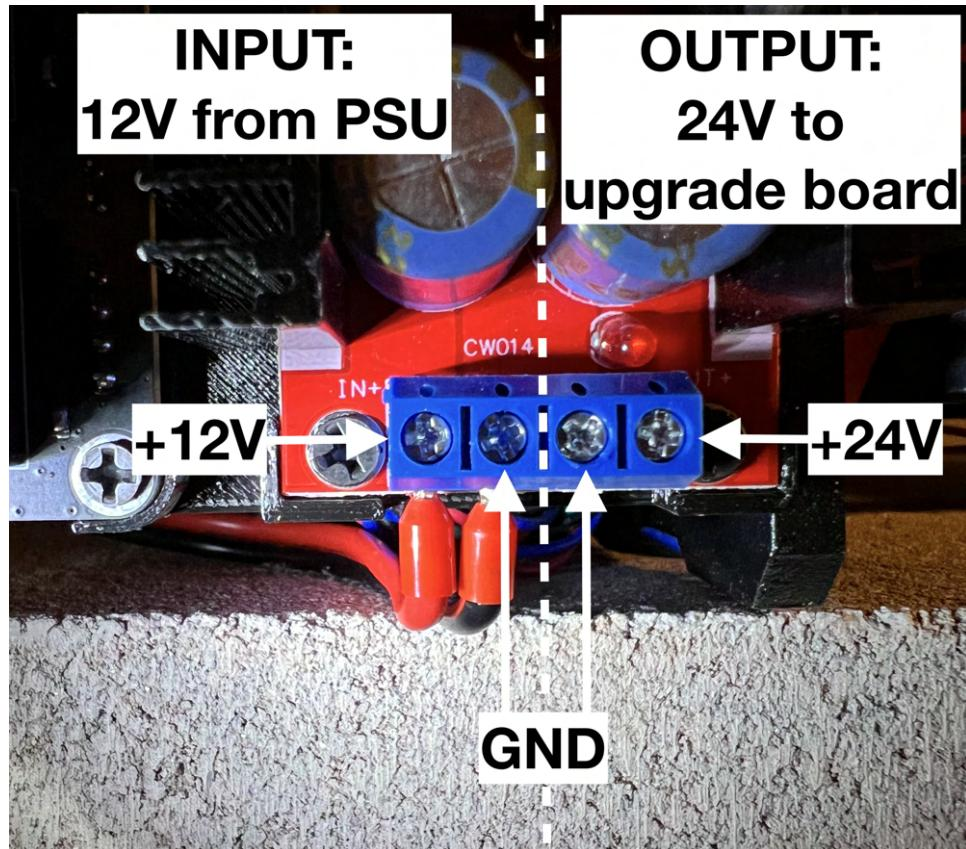

Figure 25: 12V power cables from PSU mounted to the input terminals on the boost converter. Boost converters terminals input and output connections marked.
2. Retrieve the power cables from the PSU and connect them to the positive and negative inputs on the boost converter, as illustrated in Figure 25. **NOTE:** You may need to use a small plier to flatten the connectors of the cable to ensure a secure fit into the small screw terminal.
4. Turn off the printer, disconnect the power cable from the PSU, and wait until the red LED on the boost converter turns off before connecting the short 2-pin power cable from the output of the boost converter, marked in Figures 25, 26, to the input of the upgrade board.